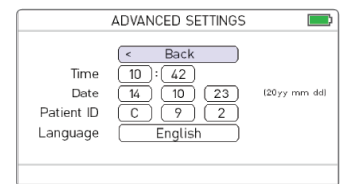

Figure 45. Advanced Settings
2. Press to access ADVANCED SETTINGS (See Figure 45). Here you can adjust the Time, Date, Patient ID and Language.
1. In ADVANCED SETTINGS (See Figure 45) Select Time.
1. In ADVANCED SETTINGS (See Figure 45) Select Date.
1. In ADVANCED SETTINGS (See Figure 45) Select Patient ID.
- In ADVANCED SETTINGS (See Figure 45) Select Language.